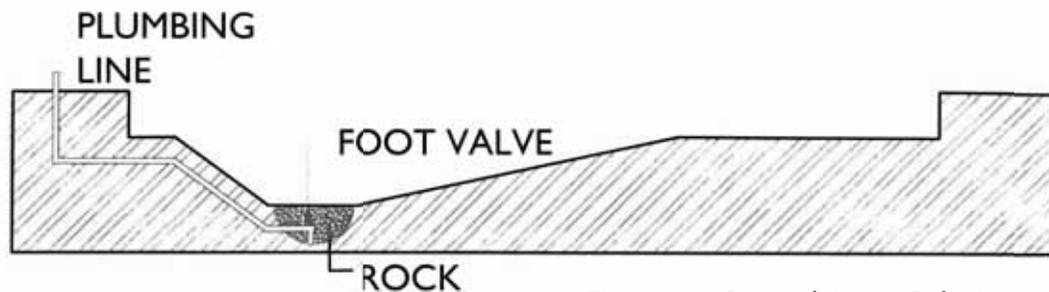

Figure 7: GroundWater Solution
4. Run a plumbing line from the hopper to near the filter (see Figure 7).